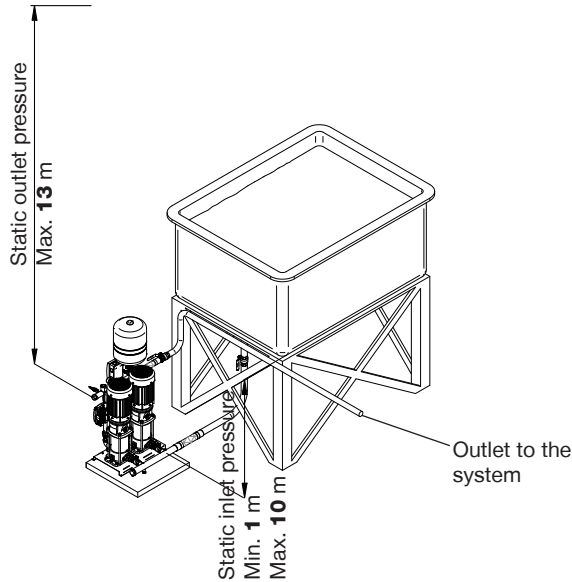

Fig. 3
- 2.16 **Static inlet pressure:** Care must be taken to ensure the booster set has flooded suction from the cold water storage tank. Before deciding where to locate the unit check to ensure the static inlet head between pump and the bottom of the tank (Fig. 3) is at least 1 metre and does not exceed the max inlet head of 10 metres. Inlet pressures in excess of 3 metres should be taken into account when selecting the working pressure of the booster set, i.e. take the static inlet pressure away from the required working pressure.
- 2.21 **Static outlet pressure:** The static outlet head (Fig. 3) must also be within the maximum requirement of 13 metres. The booster set should have been selected to provide the required operating pressure at the highest outlet after allowing for the static height of the highest fitting and the frictional losses in the pipework. The minimum requirement at the highest outlet is usually 1 bar but can be up to 3 bar depending on the type of fittings used.